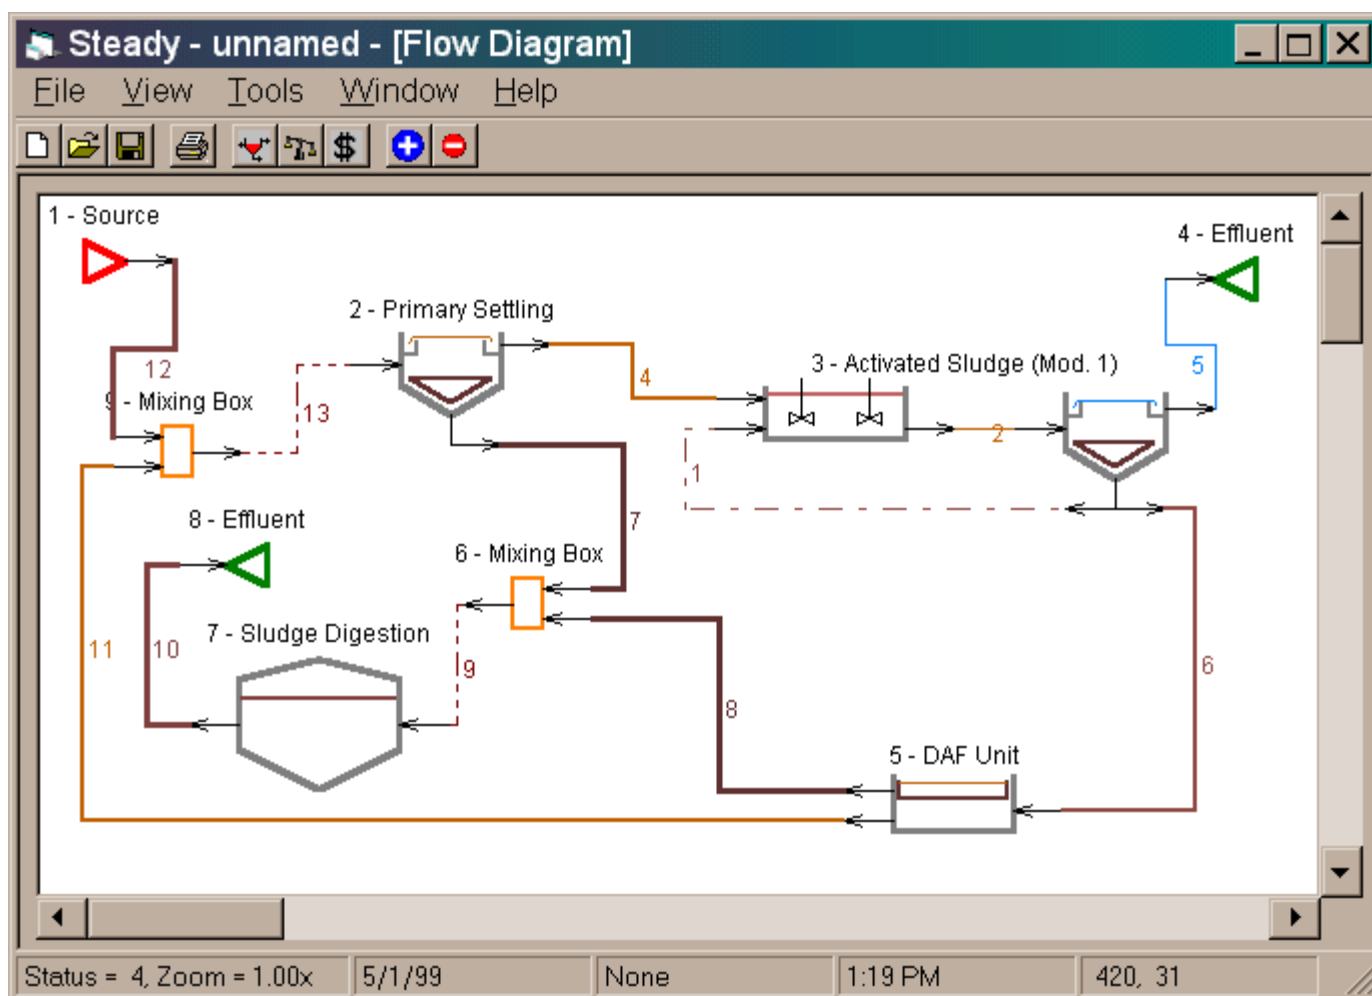

Figure 9 - Finished Plant Layout
18. Now connect the underflow from the DAF unit to the lower inlet of the mixing box and the source to the upper one. Then connect the outlet of the mixing box to the inlet of the primary settling tank. The plant layout is now finished. It should look something like Figure 9.